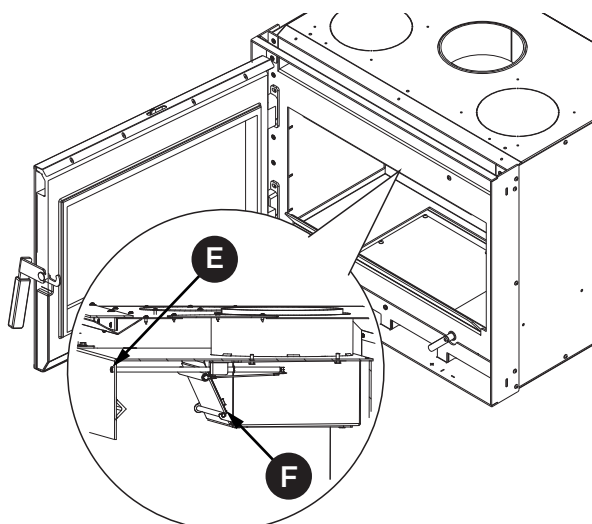

Fig. 8.3
The insert is supplied with the bypass valve (F) already adjusted against the box (Fig. 8.3). If the adjustment is not adequate, recalibrate the valve in order to obtain good combustion.
3	Loosen the screw (E) in order to place the bypass valve (F) against the box (Fig. 8.3)